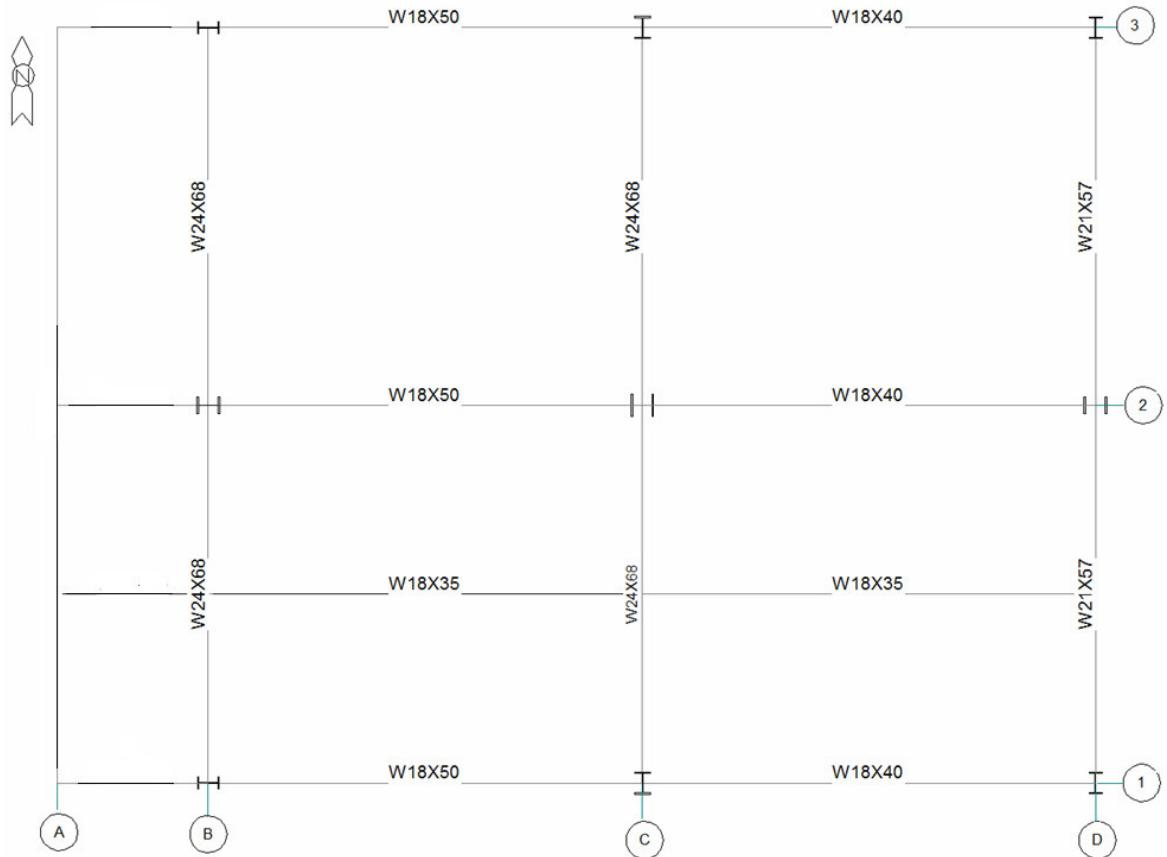

Figure 5 – U03 Second Floor Plan (10m elevation)
20. Use the Clip by Volume to isolate the Second Floor as shown in Figure 5 to assist the structural member placement at elevation 10m